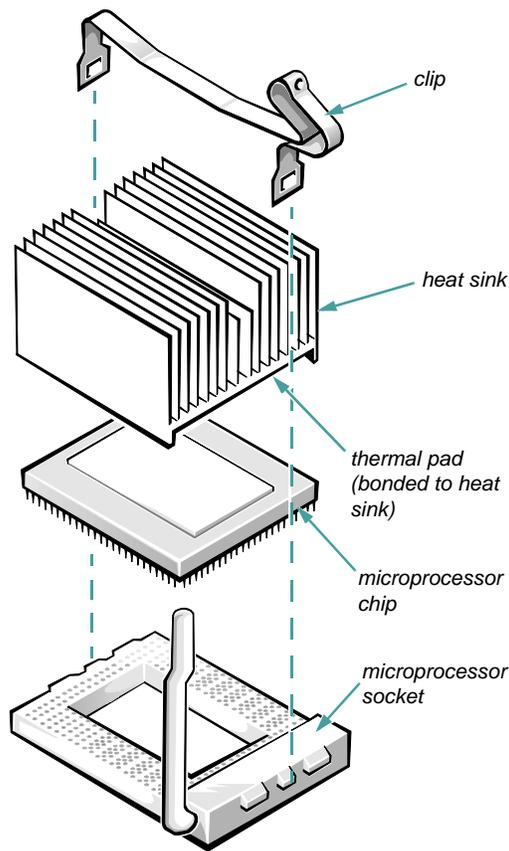

Figure 7-12. Installing the Heat Sink
9. **Place the new heat sink (with its bonded thermal interface pad) on top of the microprocessor chip (see Figure 7-12).**
Orient the clip as shown in Figure 7-12, and hook the unfolded end of the clip over the tab on the edge of the socket facing the front of the computer. Then press down on the folded end of the clip to snap the clip over the tab on the back of the socket.